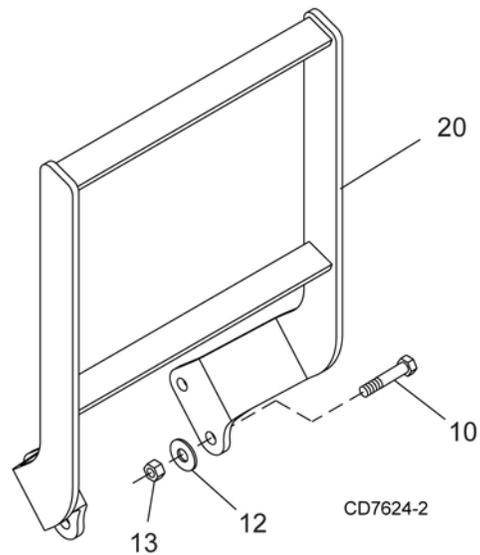

Figure 4. Grill Guard Installation
1. Attach grill guard (20) to front of tractor frame using cap screws (10), hardened flat washers (12), and hex nuts (13) as shown in Figure 4.